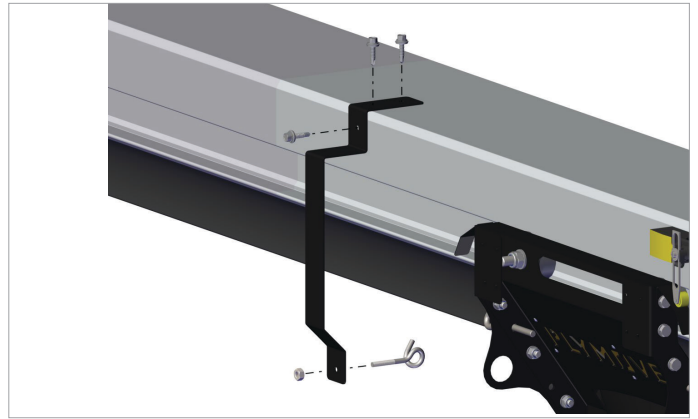

Fig. 6.3.9 Mounting the rope bracket
- Mount the rope bracket(s) using self-tapping screws 6,3 x 25. Refer to fig. 6.3.9.